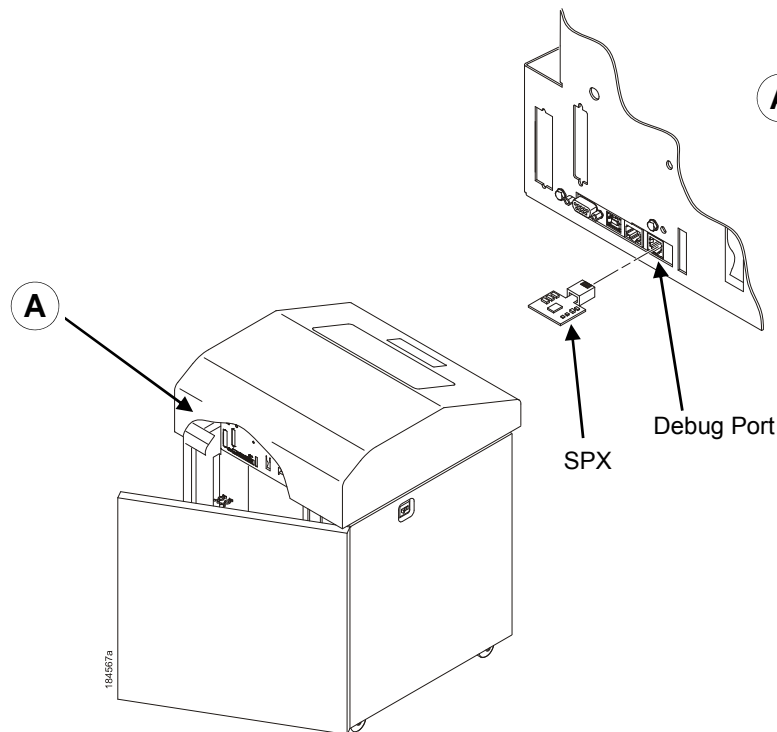

Figure 23 Inserting The SPX into the Debug Port
2. On cabinet models, open the rear door. On pedestal models, refer to Figure 23 to locate the debug port at the rear of the printer.